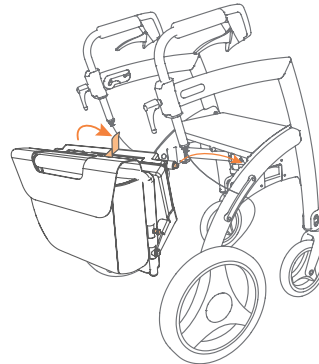

Figure 30: Attaching the transport chair package.
- a. Hold the Rollz transport chair package with the side of the bag towards you (**Figure 30**).